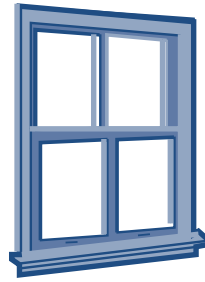

Figure 24: Double-hung window.
- **Double-hung windows** are very common, especially in older homes. They are composed of two sliding sashes that move vertically through channels in a single frame, (Figure 24). These windows can be difficult to weatherstrip. But on the other hand, they allow the most air infiltration of any window design if left alone.